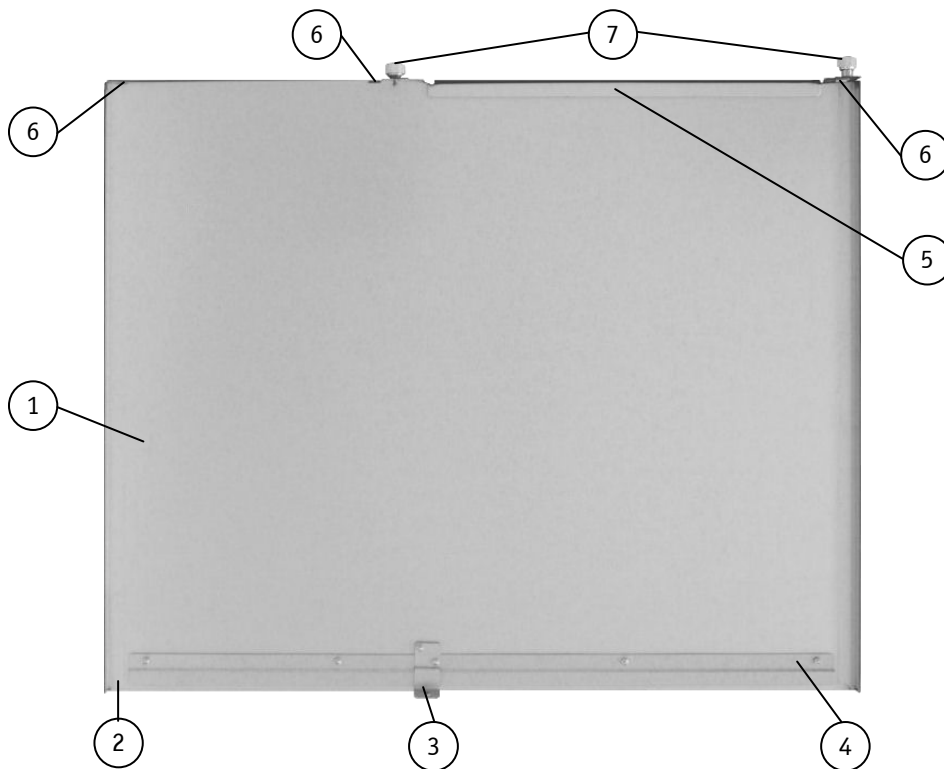

Fig. 23: Inside of the cover with fixing brackets
The cover will be fixed to the chassis using two fixing brackets at the front side of the cover (Fig. 23, pos.3 and pos. 4), the fixing brackets at the rear side of the cover (Fig. 23, pos.5 and pos. 7) and the cover fastening screw (Fig. 11, pos. 6) at the front side of the KISS 2U Short V2 platform.
- ❑ At the front side: the fixing brackets (Fig. 23, pos. 4) are inserted properly into the corresponding cover retaining plate of the chassis (Fig. 7 and Fig. 8 pos. 4).
- ❑ At the rear side: the centring latches and the cover retaining plate (Fig. 7 and Fig. 8, pos. 6 and pos. 9) are properly inserted into the fixing bracket and centring slots of the cover (Fig. 23, pos.5 and 6).
The angled centering bracket (Fig. 23, pos. 3) and the front cover fastening screw Fig. 11, pos. 6) secure the cover on the front side. The fixing brackets with knurled screws (Fig. 23, pos. 7) secure the cover on the rear side.
4. Pull the cover out a little bit (Fig. 27) to release the cover centering and fixing brackets (Fig. 23, pos.3, 4 and 5) from the retaining plates of the chassis (Fig. 7 und Fig. 8, pos. 4 und pos. 9).